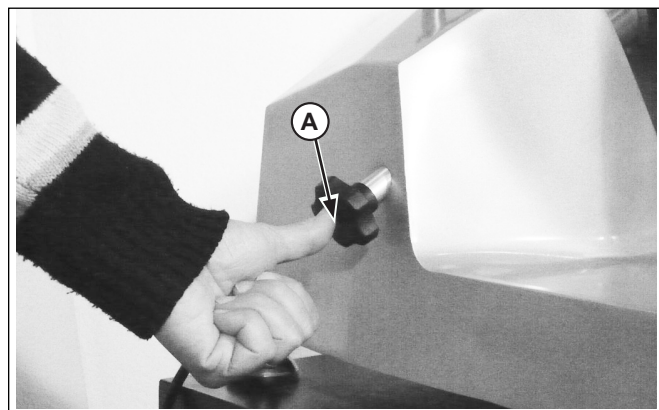

Figure 2. Knife Cover Knob
4. Unscrew the knife cover knob (A) and push on the knife cover knob to lift the knife cover from the knife. See Figure 2.
18. Install the knife cover. See Figure 2.
15. Install the blade cover (A) and tighten the securing knob (A). See Figure 2 and 3.
9. Use the knob (B) lift the sharpening assembly (A) and rotate it 180° to the slice position. See Figure 2.